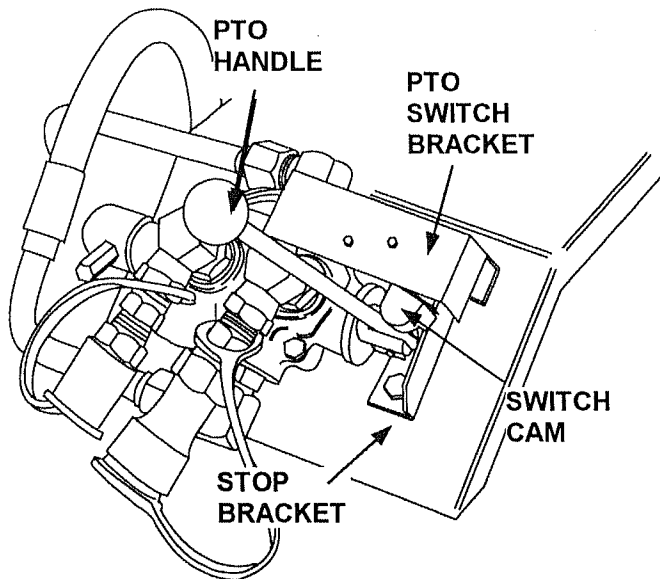

FIGURE 17
1. (See figure 17) Put PTO handle in the "OFF" or neutral position.
1. (See figure 17) Put the PTO handle into the "OFF" or neutral position.